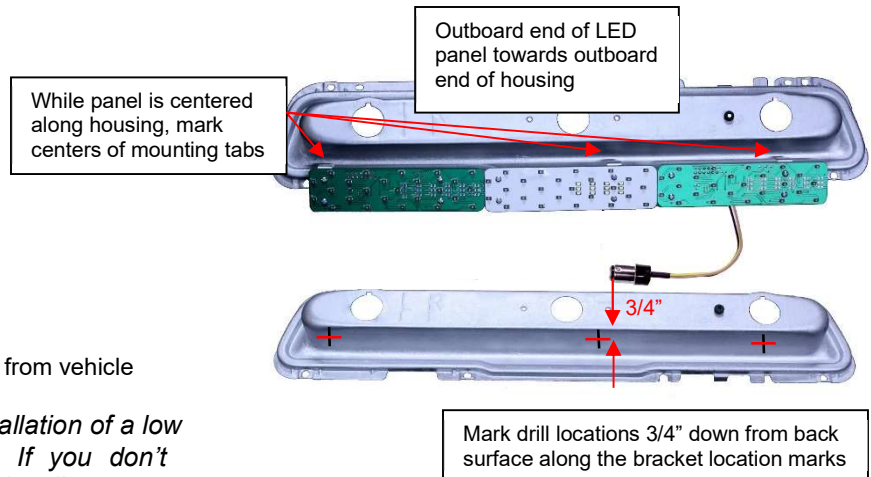

Figure 1
- 3.2. Position the appropriate LED panel assembly with the aluminum mounting tabs flush to the bottom housing surface and against the gasket flange and centered along the housing as shown in Figure 1 top image. While holding the LED panels against the housing surface, mark the center of the mounting tabs with a marking pen.
- 3.3. Measure down exactly 3/4" from the housing back surface to each marked line as shown in lower image in Figure 1 and mark the location of the mounting holes. Drill 1/8" diameter mounting holes into each housing assemblies at the marked hole positions.